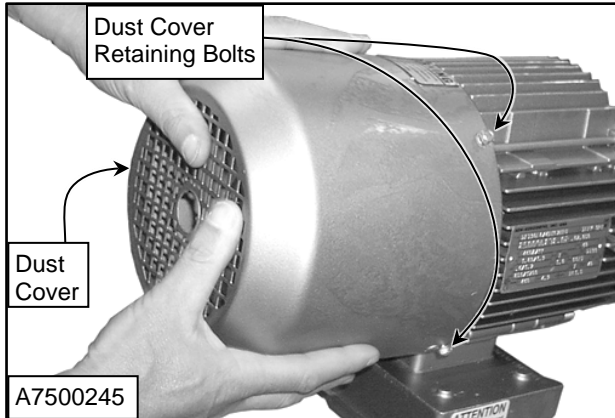

Figure 51
- Loosen hex-head bolts retaining the dust cover to the motor assembly. Remove the cover. (See Figure 51)